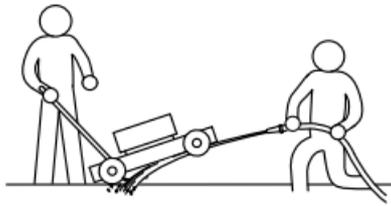

Figure 16
- Holding the handle, tilt the machine up so the bottom of the deck is accessible (Figure 16).
- Spray a stream of water under the deck (Figure 16).